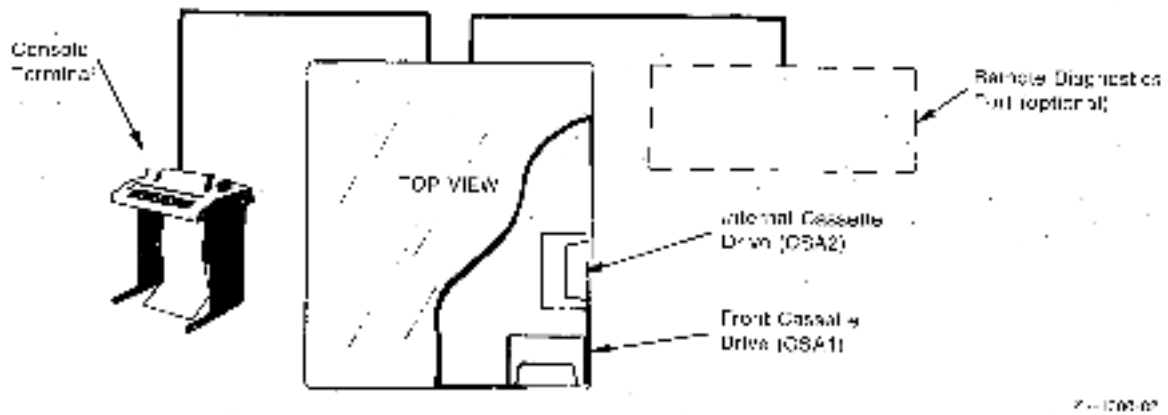

Figure 1-1: The IDC-configured VAX-11/730 Console Subsystem
1.1.2.1 IDC-configured VAX-11/730 - On the IDC-configured VAX-11/730, CSA1 is located at the front of the CPU cabinet above the processor control panel. The other TU58 drive, CSA2, is internal. Figure 1-1 illustrates the locations of the TU58 drives for the VAX-11/730 using a cutaway top view of the CPU cabinet.